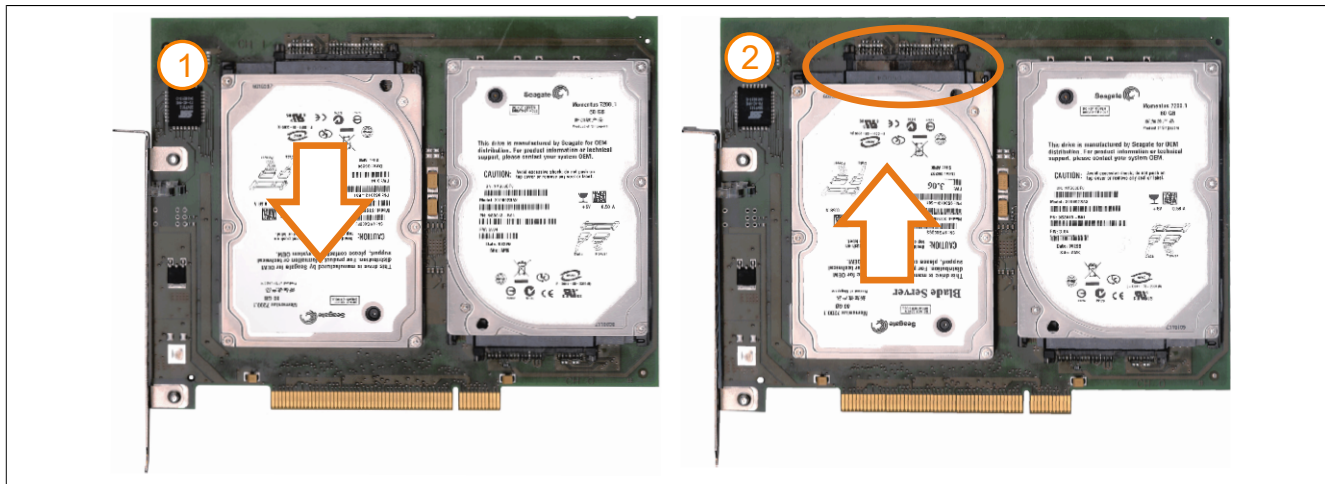

Figure 282: Hard disk exchange
6. On the front side, slide the hard disk down and away (Figure 282: Hard disk exchange - left image).
7. Insert the new hard disk carefully into the connector (Figure 282: Hard disk exchange - right image), being careful to only touch it on the front, and not on the top.